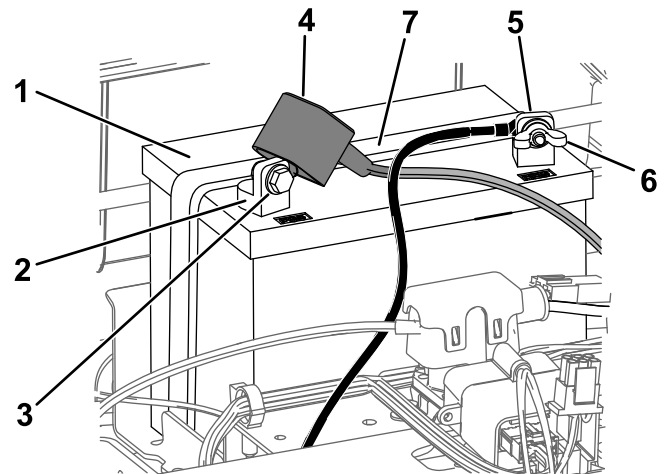

Figure 43
4. Disconnect the negative (black) ground cable from the battery post (Figure 43).
6. Disconnect the positive (red) cable from the battery post (Figure 43).
7. Remove the battery hold-down (Figure 43), and lift the battery from the battery tray.
1. Position the battery in the tray (Figure 43).
5. Secure the battery with the hold-down (Figure 43).